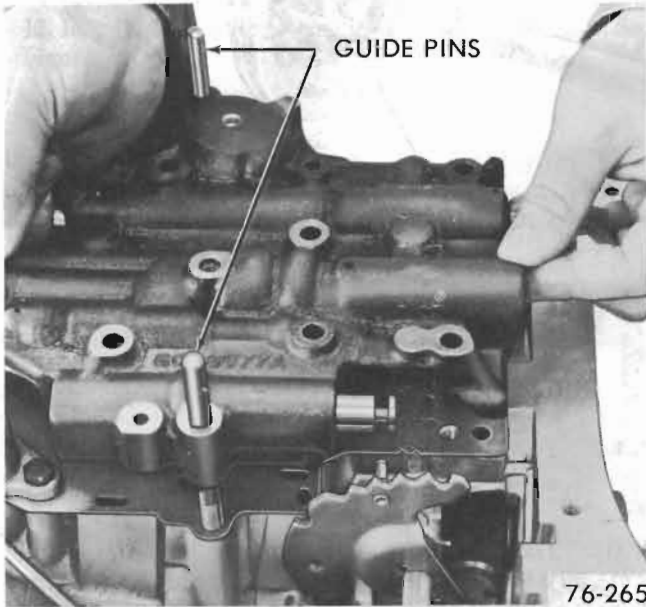

Figure 76-265
1. Install two control valve assembly attaching bolts with heads cut off as guide pins, as shown in Figure 76-265.
Step 3 below, insert governor screen, closed end first, into governor feed pipe. (This pipe locates in the governor feed pipe hole in the case nearest the center of the transmission). See Figure 76-265.
3. Install control valve assembly and governor pipes on transmission, while carefully aligning the governor feed pipe over the governor screen. See Figure 76-265. Make certain gasket and spacer do not become mispositioned.